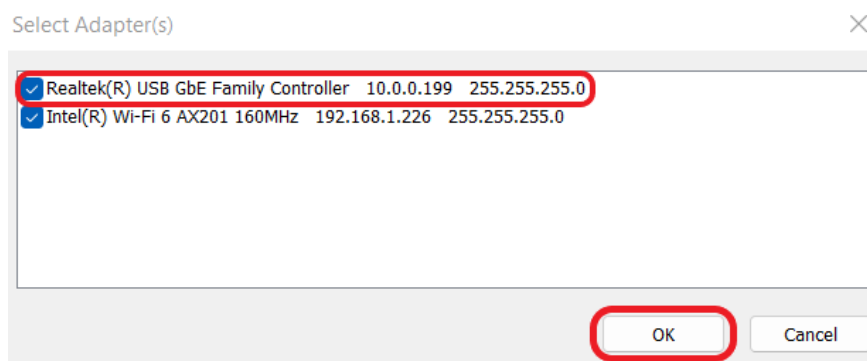

Figure 29: Static Routes – ‘Select Adapter(s)’ window
5. Clicking ‘Broadcast Search’ will open the ‘Select Adapter(s)’ window. This window shows all available network adapters on your computer that currently have network devices configured. It is only necessary to select the adapter you are using, either Wi-Fi or ethernet, depending on what network configuration and connection method you are using to connect to the controller. However, there is no harm in leaving all adapters selected and simply pressing ‘OK’ – highlighted in Figure 29 on the next page – to start the scan.